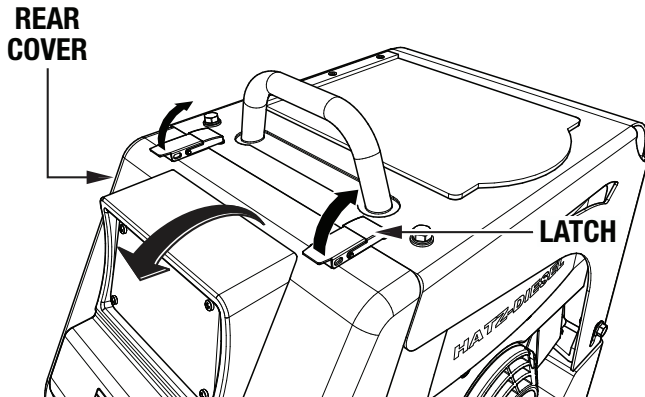

Figure 9. Open Rear Cover
1. If necessary, release the two latches at the top of the rear cover (Figure 9), then pull the rear cover downward to open.